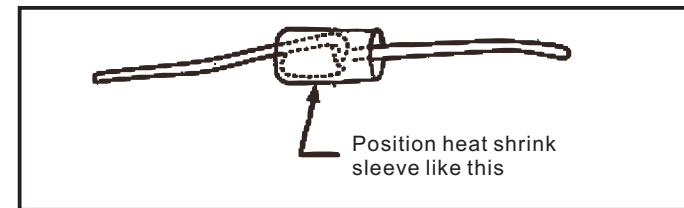

Figure 4
7. Position the heat shrink sleeves on the wires as shown in Figure 4, and using a match or cigarette lighter, apply heat to the sleeves to shrink them in place. Avoid direct contact of the flame to the sleeves and wires.